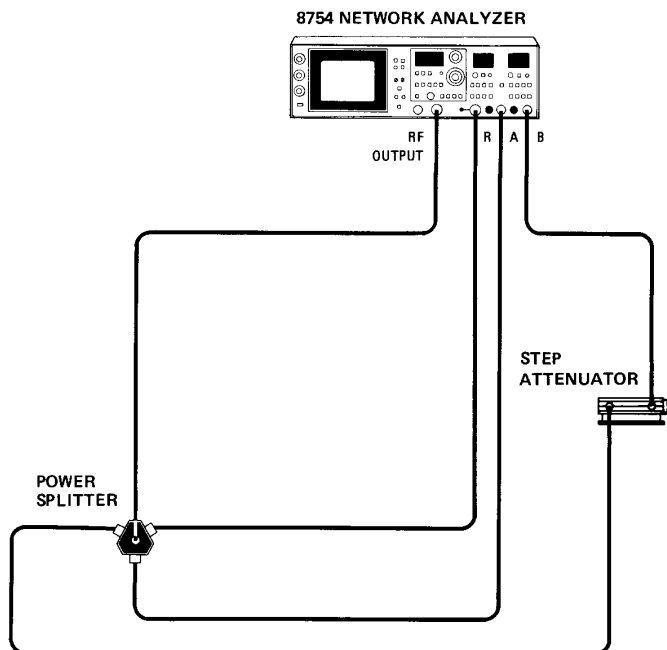

Figure 2-9. Magnitude Dynamic Accuracy Test Setup
29. Connect equipment as shown in Figure 2-9. Set analyzer controls as follows: